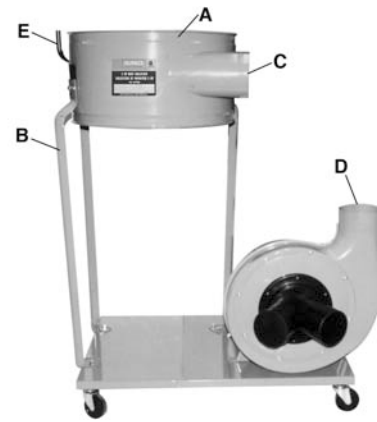

FIGURE 9
6. Install housing (A) Fig.9 to three support brackets (B) using 6 hex. bolts, 12 flat washers and 6 hex. nuts. Make sure the hose opening (C) faces the fan housing (D). Before attaching the third support bracket, place hanger bracket (E) between the support bracket and the housing as shown (KC-3105C only). Tighten all bracket nuts and bolts at this time.